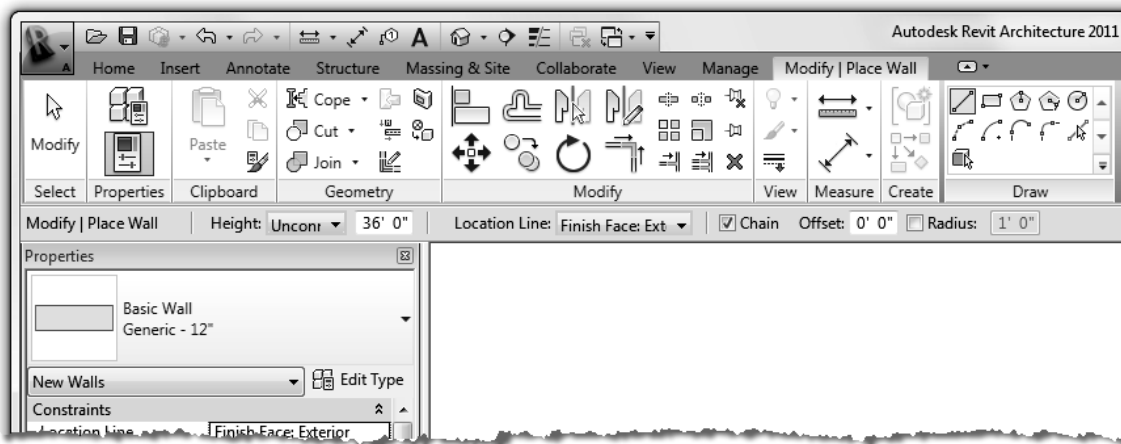

FIGURE 3-2.1 Ribbon, Options Bar and Type Selector: Wall tool active
2. Make the following changes to the wall options (Figure 3-2.1):
2. Make the following changes to the wall options on the *Ribbon*, *Options Bar* and *Type Selector* (Figure 3-2.1):